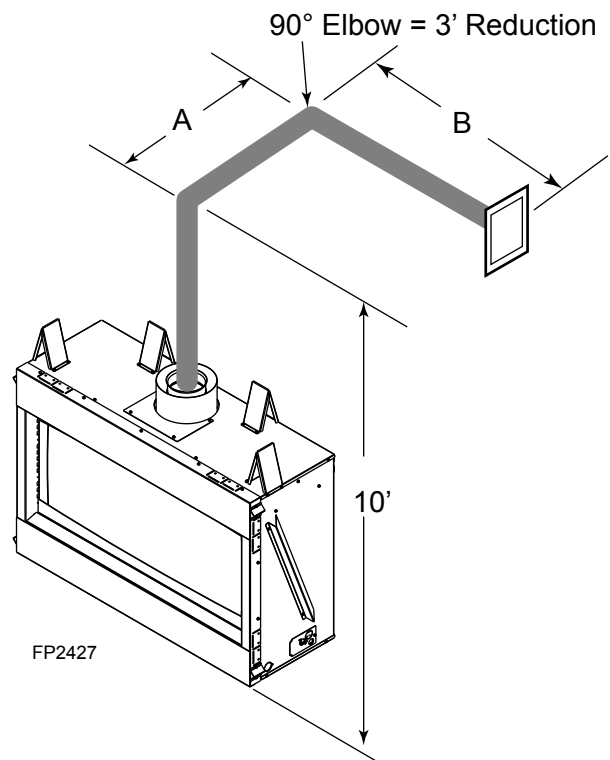

Figure 16 - Horizontal Run Reduction
- If a 90° elbow is used in the horizontal vent run (level height maintained) the horizontal vent length is reduced by 36". *Figures 16 and 17*. This does not apply if the 90° elbows are used to increase or redirect a vertical rise.
In *Figure 16* dimension A plus B must not be greater than 14½' (4.4 m).